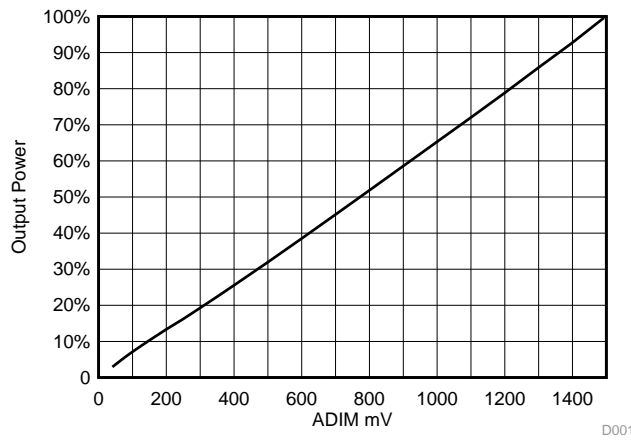

図 21. Output Power versus ADIM Voltage (3% to 100%)
- Updated 図 21 with correct x-axis label 17